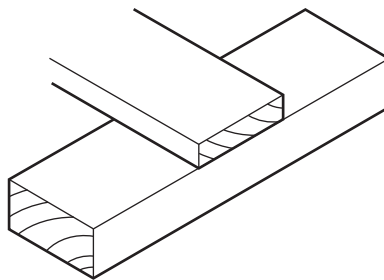

Fig. 2.1
- 2 Fig. 2.1 shows two pieces of softwood that will be joined using panel pins.
- (a) Add sketches to Fig. 2.1 to show how the two pieces of softwood could be joined by means of 'staggered' nailing.